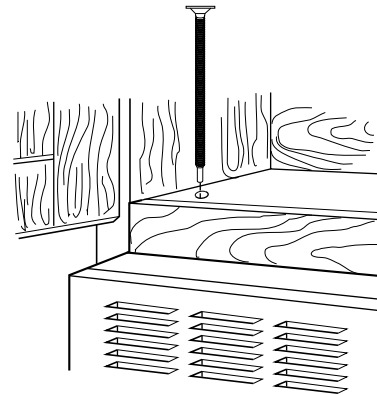

Figure 31
3. Insert a bolt down through each hole in the upper cabinet bottom. See **Figure 31**.